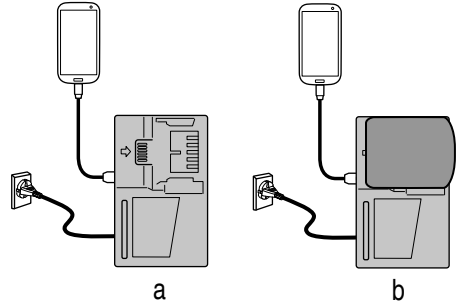

Fig. 20
- Charging a USB device from a electrical outlet. (Fig. 20-a)
- Charging a USB device and battery from a electrical outlet. (Fig. 20-b)